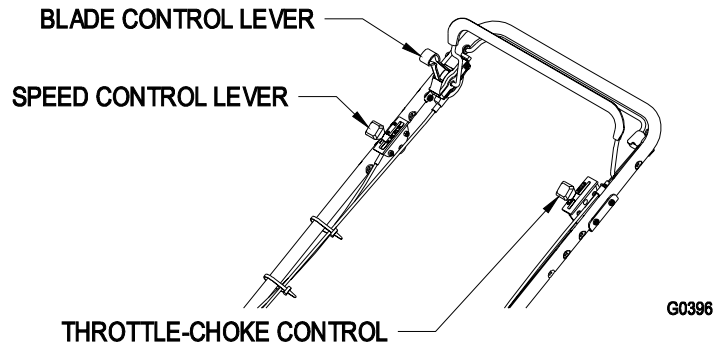

FIGURE 6
The throttle-choke control is located on the left side of the handles as shown in Figure 6. The lever is used to control engine speed. Moving the lever to the full forward **H** (**Choke**) position will place the lever in the choke position. The choke aids in starting a cold engine. Moving the throttle control forward will increase engine speed and moving it to the rear will decrease engine speed.
The blade control lever is located on the right side of the handle next to the Blade Control Bail as shown in Figure 6. Moving the blade control lever into the full forward position while depressing the blade control bail engages the blade. Releasing the blade control bail automatically disengages the blades.
The ground speed control is located on the right side of the handles below the blade engagement lever as shown in Figure 6. The ground speed control has three settings which control the ground speed of the mower.
The lawn mower has three ground speeds. **1** is slow, **2** is medium, and **3** is fast (See Figure 6 for speed control lever location).
3. Move the blade control lever to the full forward **Latch** position. Blades should engage (Fig. 6).